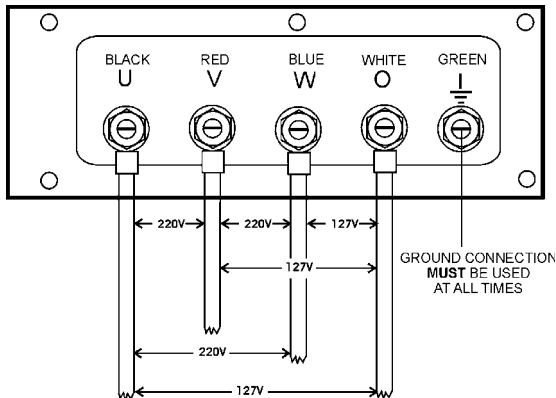

Figure 23. Output Terminal Lugs 3Ø-220/127V Three Phase Connections
2. Connect the load wires to the **Output Terminal Lugs** as shown in (Figure 23).